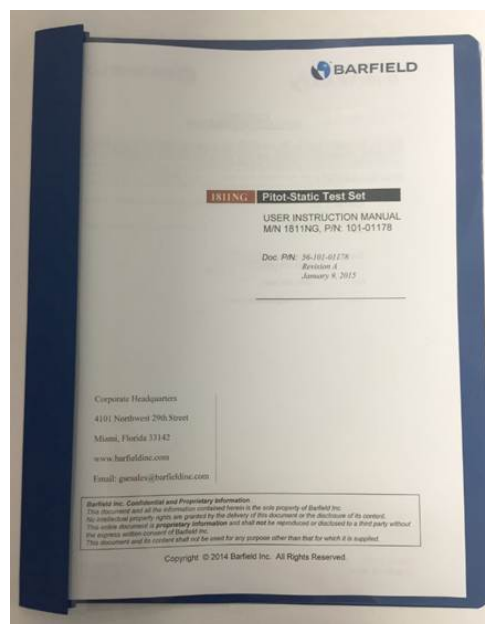

Figure 12 Instruction Manual, P/N 56-101-01178
- (1) Instruction manual P/N 56-101-01178, see Figure 12.